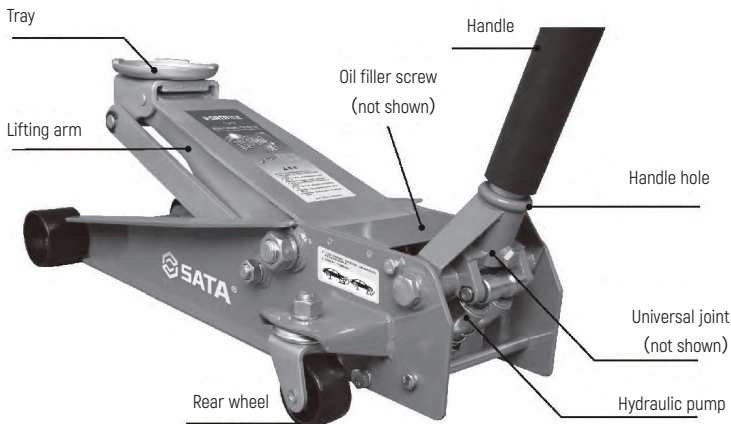

Figure 1
- 2) Insert the handle into the handle hole (see Figure 1) .
- 3) Rotate the handle counterclockwise (see Figure 1) and turn on the oil return valve.